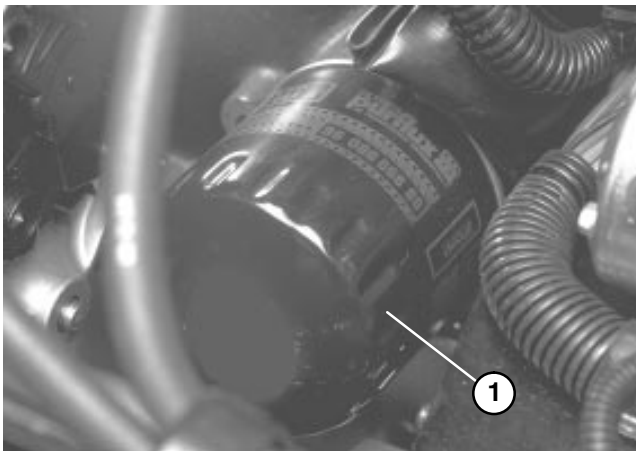

Figure 44
2. Remove oil filter (Fig. 44). Apply a light coat of clean oil to the new filter seal before screwing it on. DO NOT OVER-TIGHTEN.